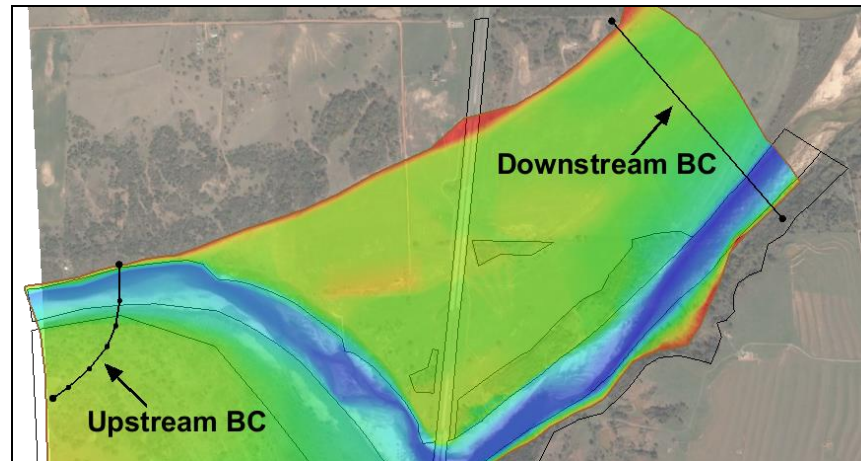

Figure 6 Locations of upstream and downstream BCs
6. Using the **Create Feature Arc**  tool, click out an arc at the location labeled “Upstream BC” in Figure 6.
Inflow boundary arcs should be created such that constant water surface (head) can be assumed along the arc. The arc as shown in Figure 6 is angled upstream in the floodplain as a better approximation of the correct equal head condition.
1. Using the **Create Feature Arc** tool, click out an arc across the downstream portion of the model as shown in Figure 6.